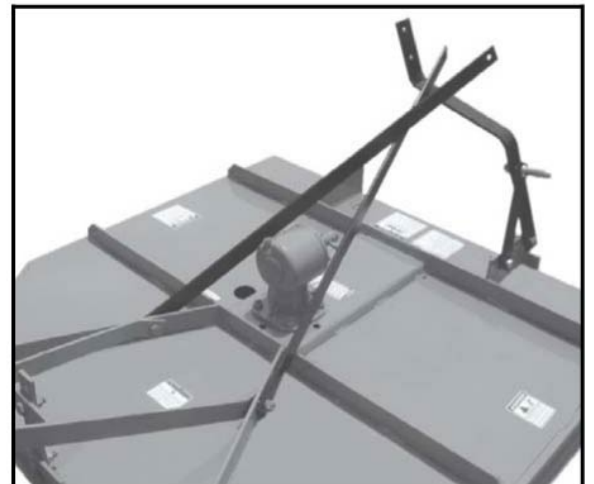

Figure 5
STEP 5 Install both the right and left side lift arm braces by sliding them over the two (2) A-frame tailwheel bolts that were loosened in Step 4. Start the nuts on the bolts, but at this time **DO NOT TIGHTEN THEM**. Allow the lift arm braces to rotate forward and rest against the installed lift arm. (See Figure 5)